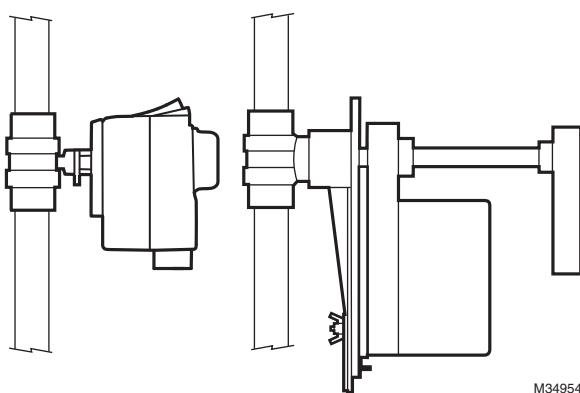

Fig. 4. Vertical valve installation.
6. Valve must be mounted with the actuator/bracket above the valve body. Do not install the valve with the stem below horizontal or upside down. (See Fig. 4 and 5.)